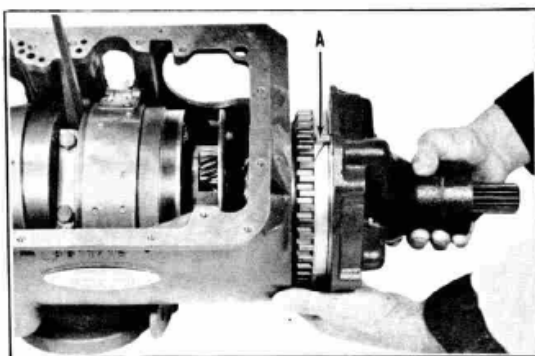

Figure 35
stationary cone lock key (A) into machined key-way in case, Figure 35. Then align rear bearing retainer bolt holes to case and install attaching bolts and lockwashers.